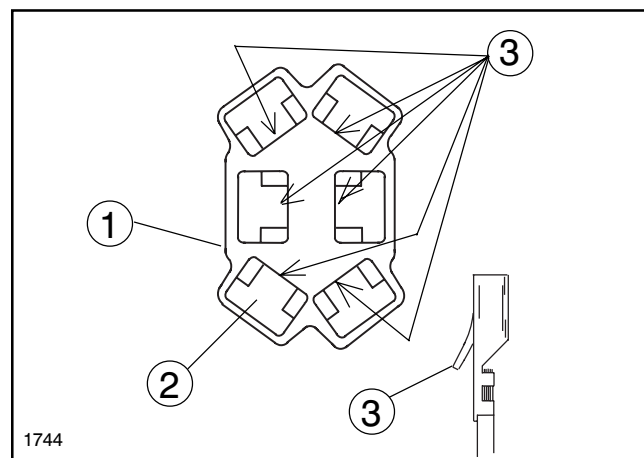
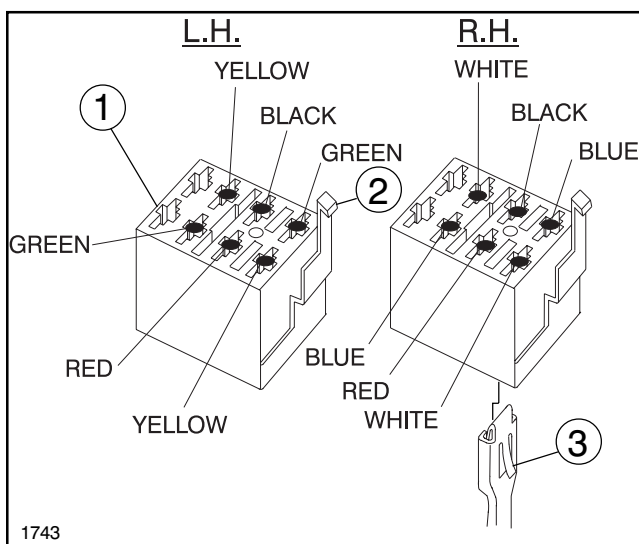

FIG. 5
FIG. 6
b. Remove the wires/terminals from the 6-way connectors using a small flat tip screw driver. Insert the tip of the screwdriver into a socket of the Connector from the side opposite of where the wires go in and on the side where the metal Tang of terminal locks into the connector. See FIG 5. Press the Tang back completely and pull the wire/terminal from the socket.
d. Install the terminals/wires into the sockets of the new Connector Housings, provided, as shown in FIG. 6, page 3. Places all the wires from one group into one Connector Housing and all the wires from other group into the other Connector Housing. Orientate the terminals as shown in FIG. 5, with the Tangs facing in the direction of the Locking Arm. Firmly press the terminals into the sockets.